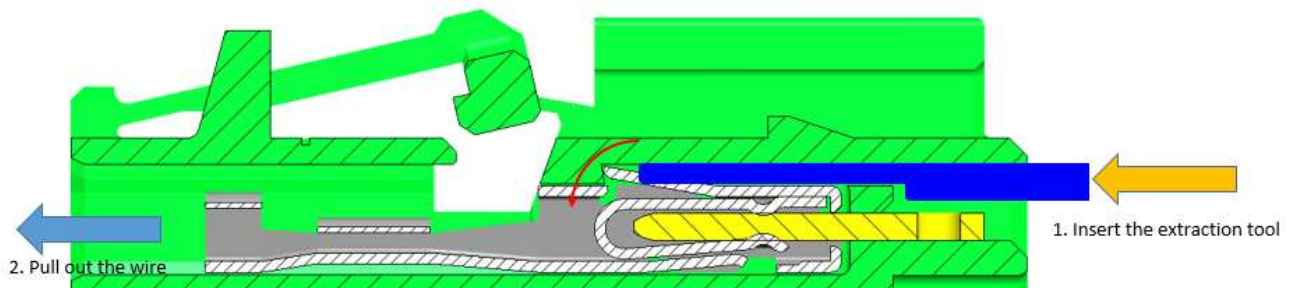

Figure 19
3. Insert the extraction tool per each terminal cavity and then pull out the crimped terminal from the connector using the wire. See Figure 19.